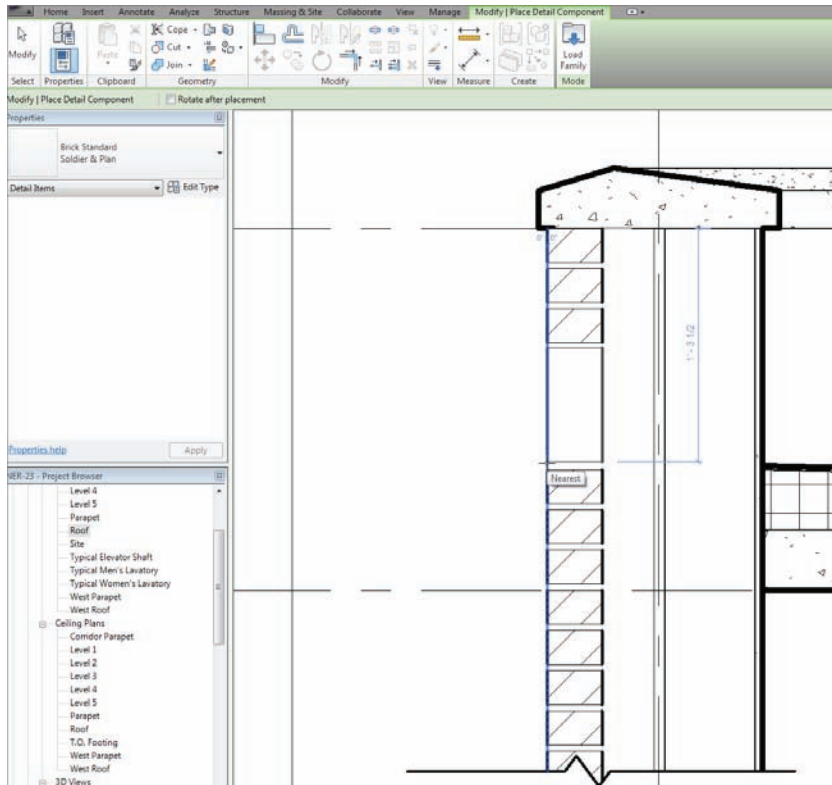

FIGURE 12.15 Placing the new detail component
3. Place it into the model as shown in Figure 12.15. Eyeball the gap at the bottom.